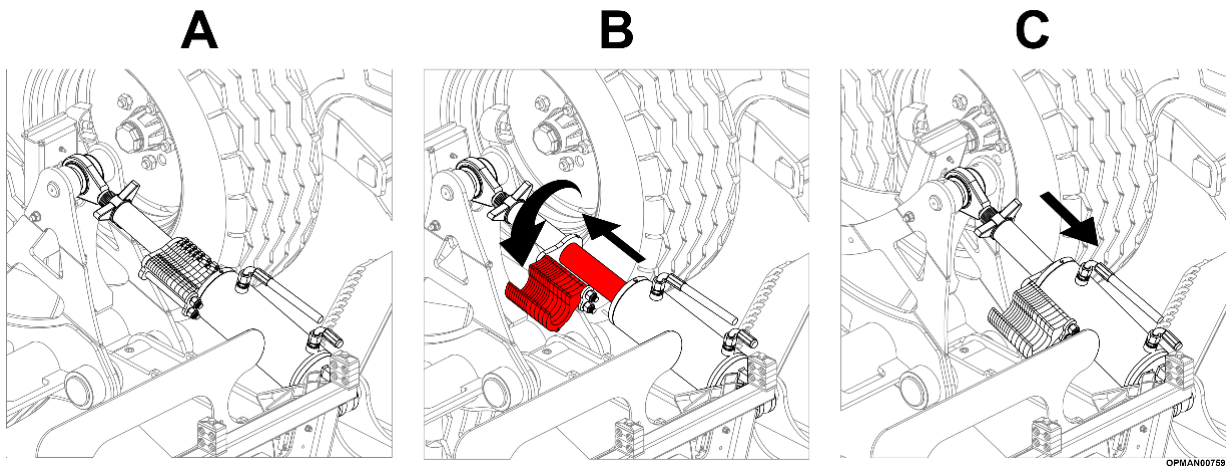

Figure 4.6
- 4.4.2.2 Ensuring the hoses are seated properly, enter the tractor cab and use the tractors hydraulic control levers/buttons to completely fill the centre and wing axle lift ram cylinders with oil and raise the machine to create a clearance between the end of the ram and the spacer; see Figure 4.6 (B).
- 4.4.2.3 Switch off the tractor engine off and ensuring the tractor parking brake is engaged leave the driver's seat and proceed to remove all the ram spacers from both of the centre axle lift rams; see Figure 4.6 (B).
4.4.2.9 Raise the machine fully. Switch off the tractor engine off and ensuring the tractor parking brake is engaged leave the driver's seat and proceed to **fit all 15 ram spacers** into both of the centre axle lift rams; see Figure 4.6 (A).